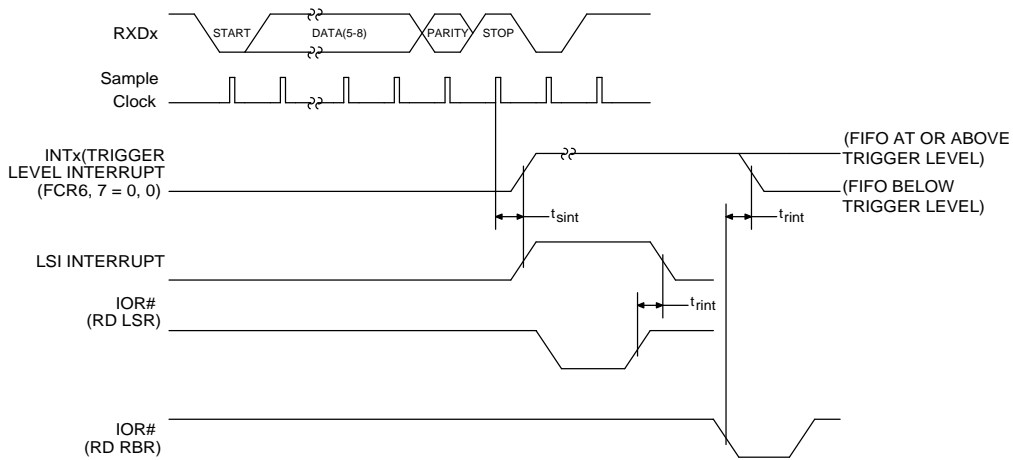

Fig 6. Receiver FIFO First Byte (Sets RDR) Waveforms
7.6. Receiver switching characteristics over recommended ranges of operating free-air temperature and supply voltage (Fig 6~9.)